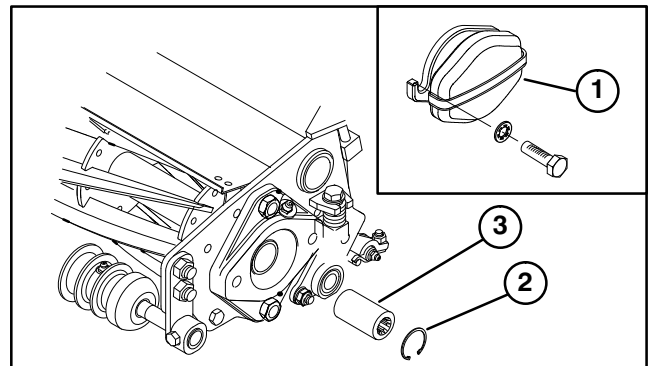

Figure 9
INSTALL CUTTING UNITS (Fig. 9–12)
- A. Remove (2) capscrews and lockwashers securing counter weight to left end of cutting unit. Remove counter weight (Fig. 9, inset).